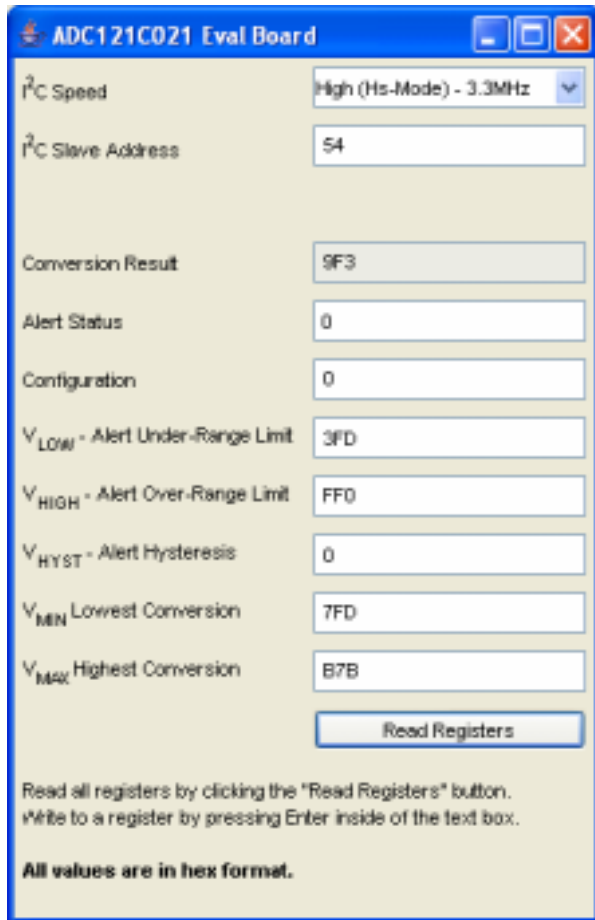

Figure 10: ADC121C021 Control Panel
5. Navigate to the ADC121C021 Eval Board Window. This is the Control Panel for the device (Figure 10).
7. Set the I2C Slave Address (Figure 10). The address will default to the correct address for the ADC121C021 (54hex). If evaluating the ADC121C027, the I2C address must be changed to reflect the state of the address selection pin (ADDR).
8. Press the "Read Registers" button. All of the register fields will update (Figure 10).
9. Configure the ADC's internal registers. The Alert function and Automatic Conversion Mode are setup through the Configuration register. After making changes to a register value, press the Enter key to write the register (Figure 10).